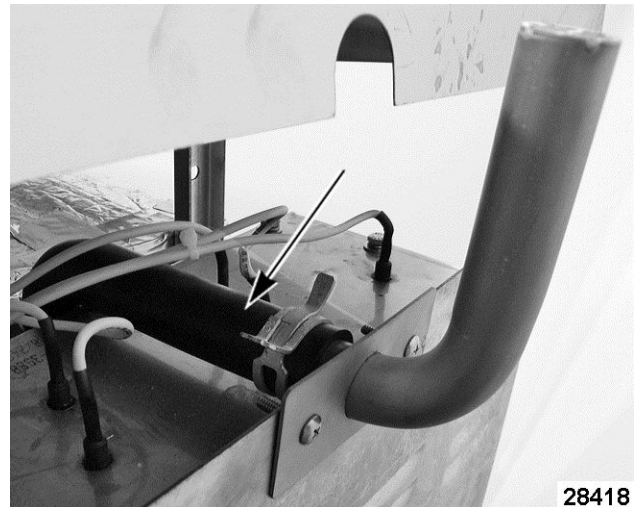

Fig. 4
2. Lift top cover at the rear to access vent hose Fig. 4 then remove clamp securing hose to vent tube.